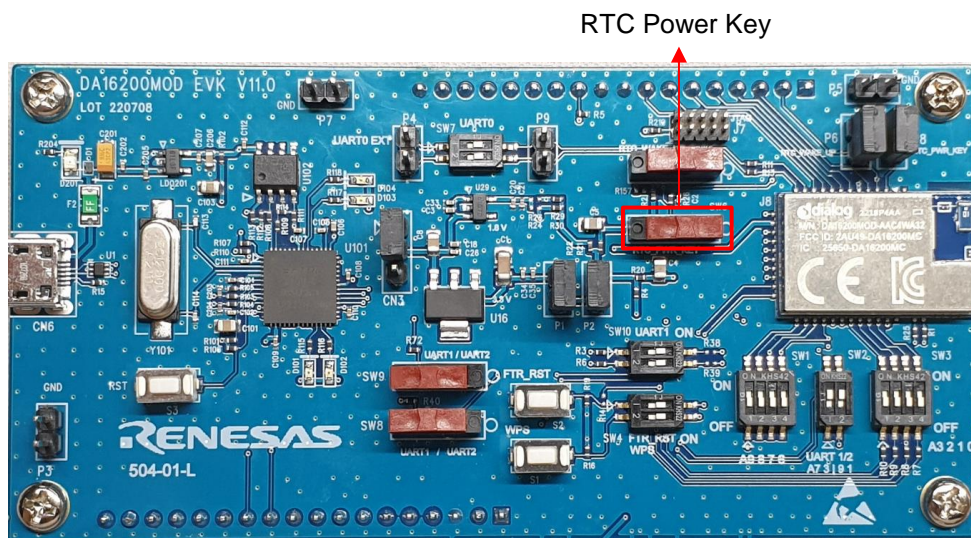

Figure 2: DA16200 EVK Board
1. Hold down the <ESC> key and press the ON/OFF RTC power key to enter the MROM prompt. (See Figure 2)